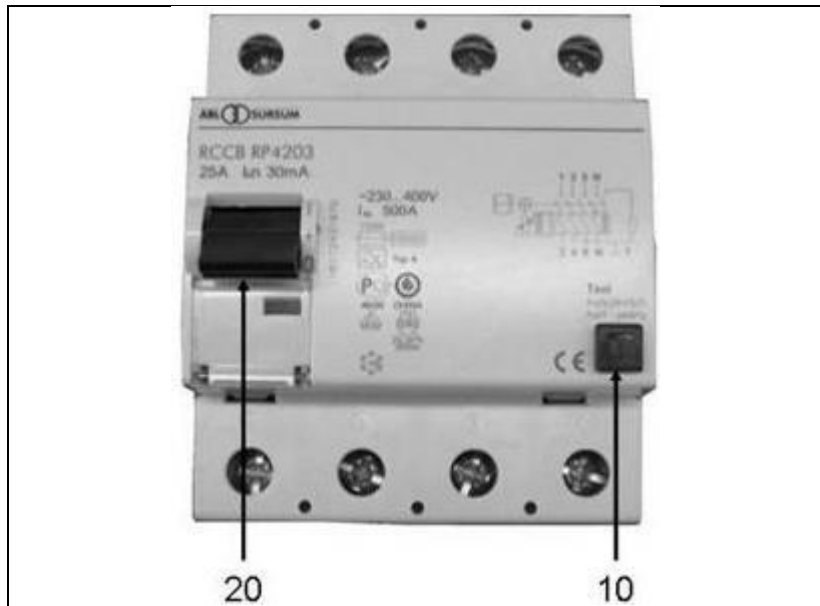

Figure 5-1: FI protection switch
2. Put the protection switch (see Figure 5-1-(20)) into position 1.
3. Activate the test switch (see Figure 5-1-(10)).
- ✓ The switch position displays the result (see Figure 5-1-(20)):